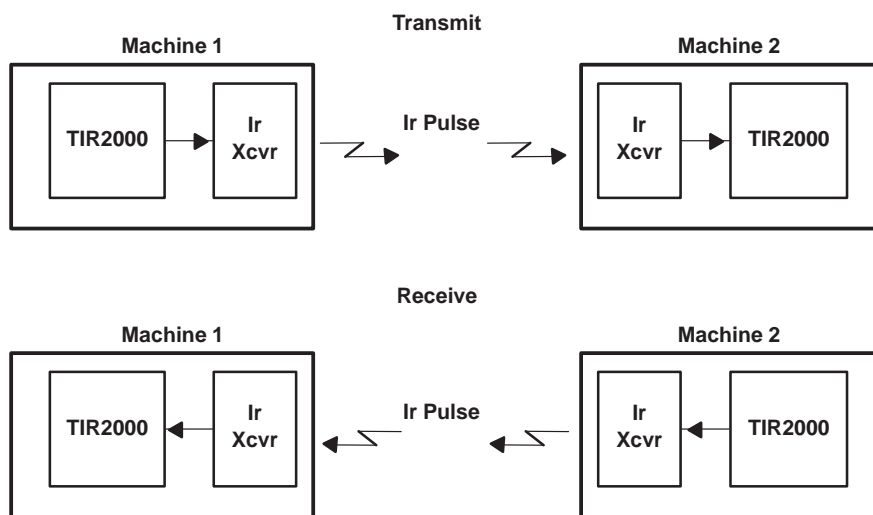

Figure 2–1. Basic Configuration for Ir Communication
- SHARP Infrared (IR) mode
Basic data communication involves at least two devices. During the data transmit mode, the first device transmits data and the second device receives the transmitted data. During the receive mode, the second device transmits the data and the first device receives the data. When the device is configured for the UART mode, both data transmission and data receive can occur simultaneously, but during the infrared (IR) modes either the data transmit or data receive is possible at any time but not simultaneously. A basic configuration for two communicating devices in the infrared mode is shown in Figure 2–1.